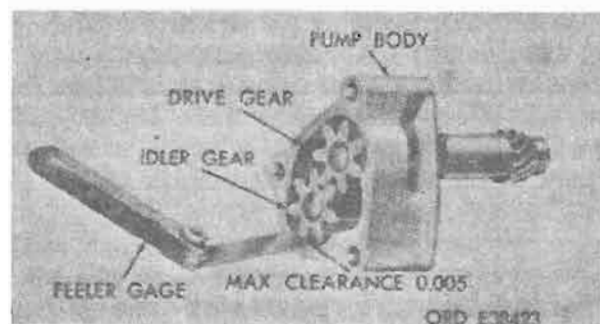

Figure 4-186. Oil gear radial clearance.
(1) *Radial clearance.* Check pump body to gear tooth clearance with feeler gage. Clearance should not exceed 0.005 inch (table 4-10 and fig. 4-186).